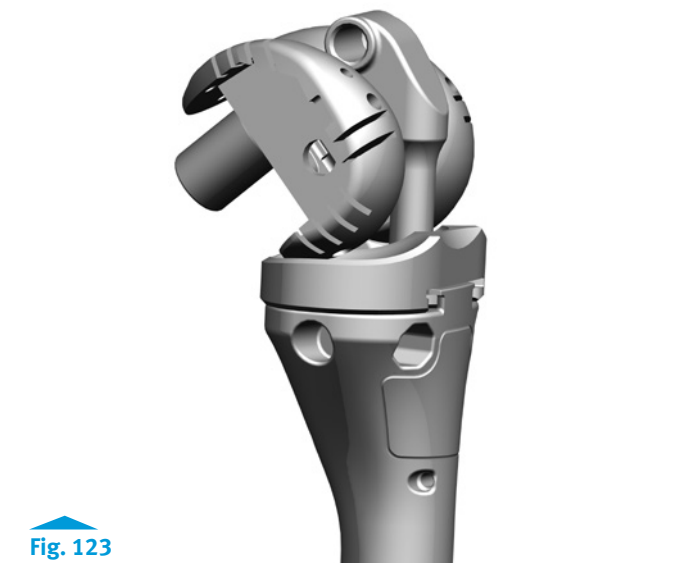

Fig. 123
- Hyperflex the knee and slide the Segmental/RH Knee Segmental Hinge Post Provisional through the Articular Surface Provisional into the Tibial Provisional assembly (Fig. 123).